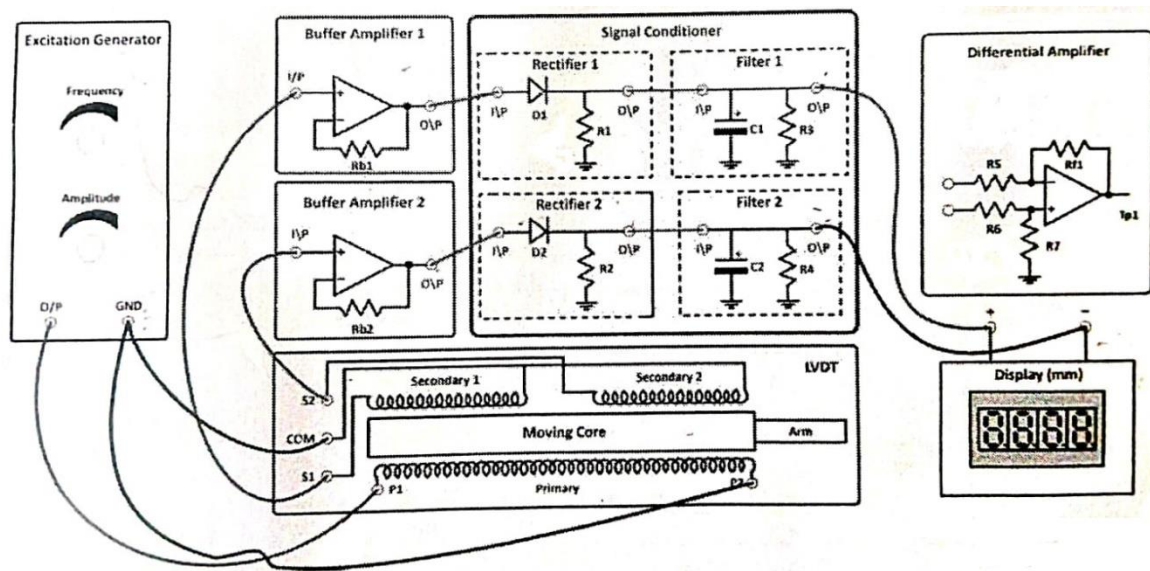

Fig1.1: Connection circuit LVDT
1. Make Connection Diagram as shown below figure1.1.